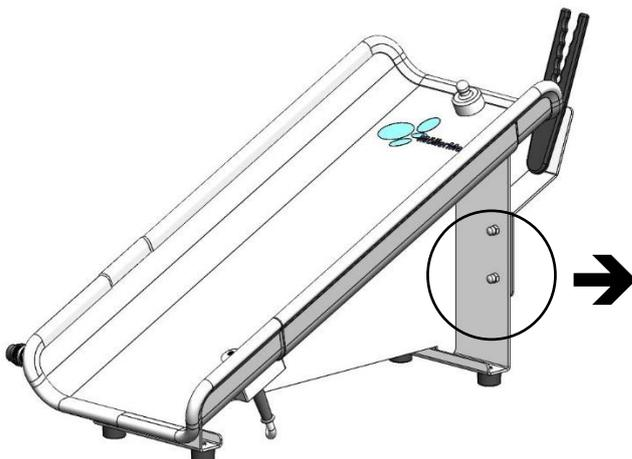
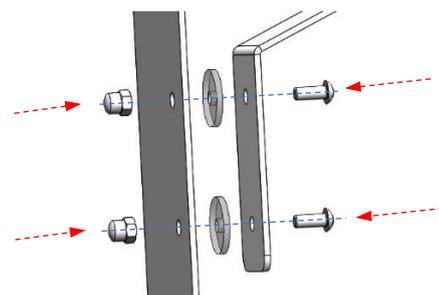

Figure 8
Figure 9
2. Take the pre-mounted **Thermia Pro** holder with the respective screws out of the packaging and assemble these on any Heating Tray (see *Figure 8* and *Figure 9*).